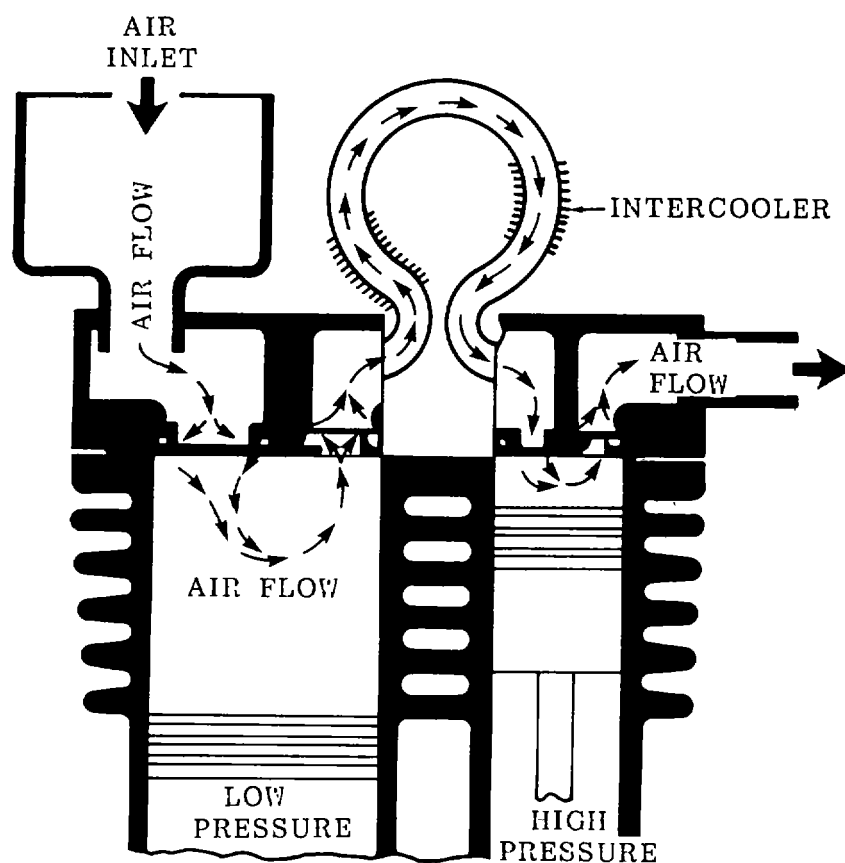

Figure 1-2. Air Compressor, Operation.
a. *Compressor.* (Refer to Figure 1-2).
- (1) Filtered air is drawn into the first stage (low-pressure) cylinders at atmospheric pressure as the pistons move down.
- (2) The air is compressed when the pistons are moved upwards.